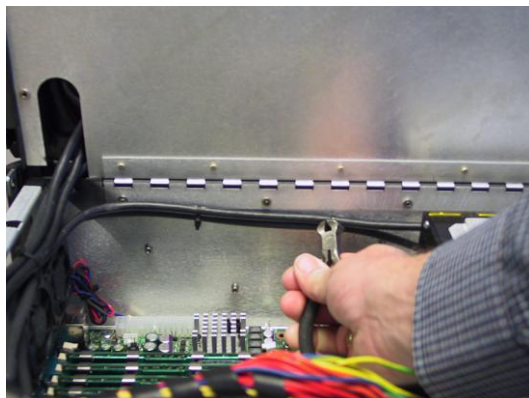

Figure 5-96
- 5) Cut any cable ties that are holding the display power and data cables in place as shown in figures 5-96 through 5-98